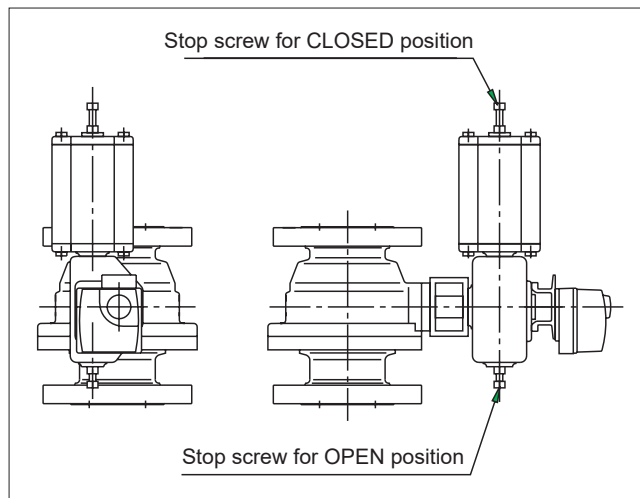

Fig. 31 Open and closed positions of the B1C/B1J actuator
- Adjust the ball open and closed positions by means of the actuator stop screws located at both ends (see Figure 31). An accurate open position can be seen in the body flow bore. Check that the yellow arrow on the actuator indicates the ball flow opening position. **Keep fingers out of the flow bore!**